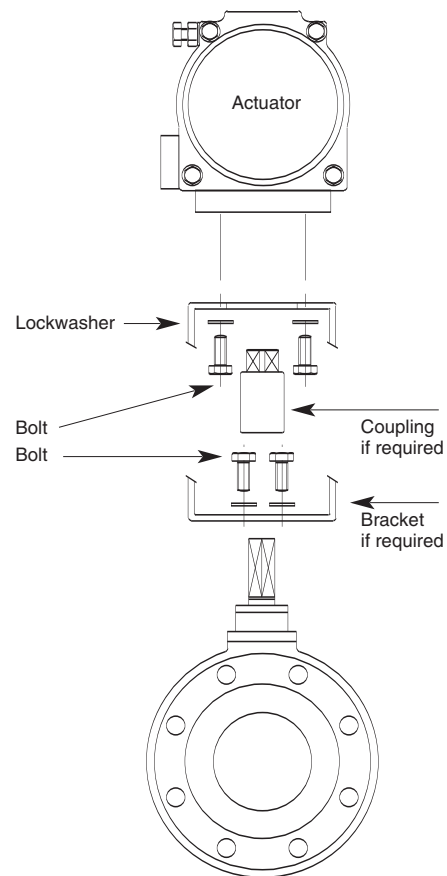

Figure 1
- 2a. Secure the mounting bracket to the underside of the actuator, using four bolts and washers, as shown in Fig 1